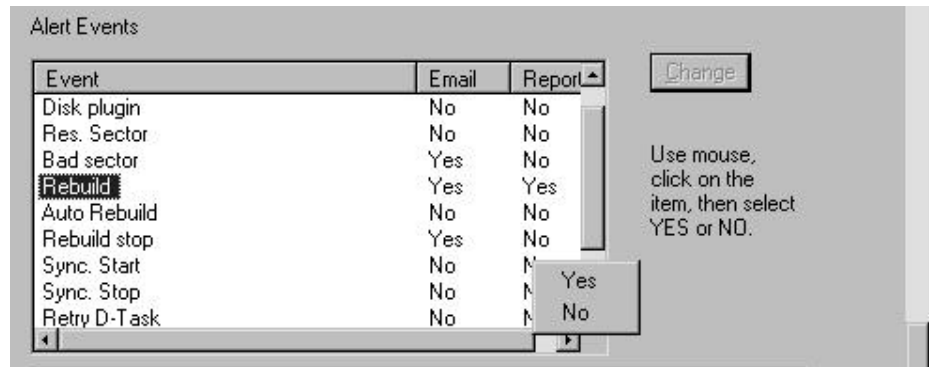

Figure 49: Adding/Removing Events for Email Alert
- 1) Double-click on the Message Agent icon whose alert email notification events you wish to modify. This will reveal the Message Agent main screen. Find the Information View of the Message Agent screen similar to Figure 49.